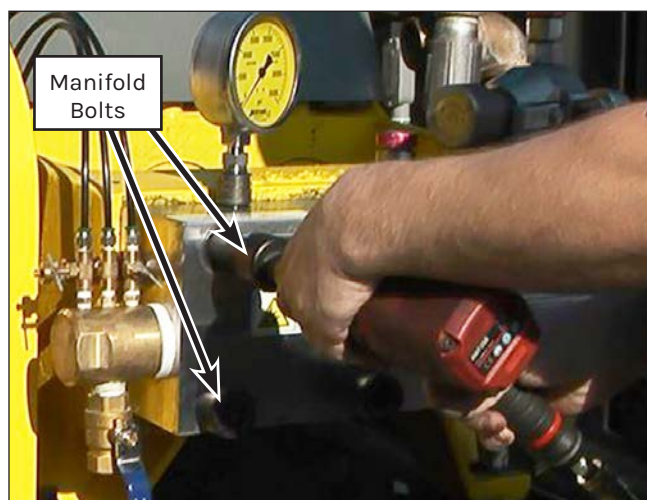
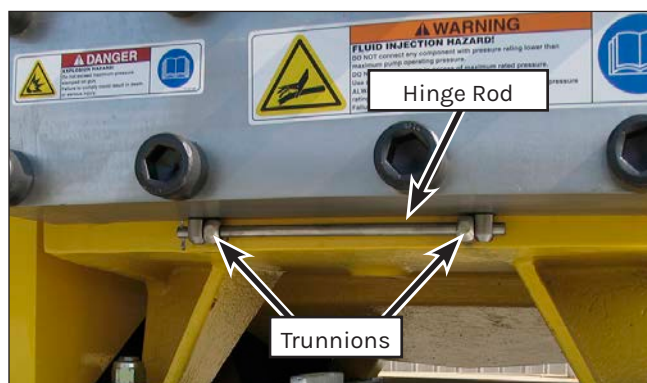

Figure 102: Removing the Manifold Bolts.
Figure 103: Hinge Rod and Trunnions.
5. Remove the manifold bolts (Figure 102). Ensure the hinge rod (Figure 103) is installed before removing the bolts.